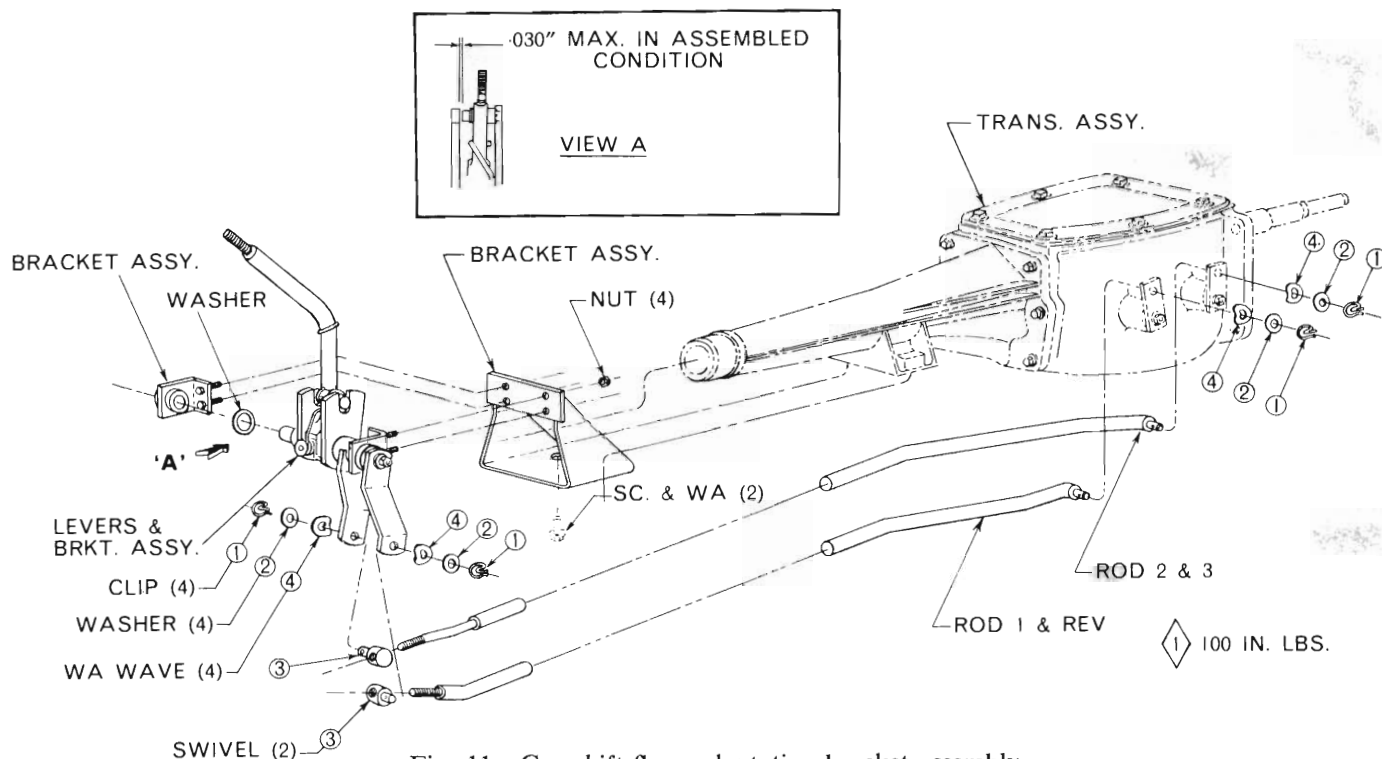

Fig. 11 - Gearshift floor adaptation bracket assembly
(3) Disconnect the selector lever rods from the levers by removing the spring clips and washers. *Refer Fig. 11.*
(4) Remove the four bushing bracket retaining nuts and remove the lever bracket assembly.
(1) Install the two bushing brackets and the lever assembly to the mounting bracket and tighten nuts to 100 lbs./in.
(2) Re-connect the two gear selector rods and secure with washers and spring clips, *refer Fig. 11.*
(3) Re-install the gear lever and boot to the lever bracket assembly stud. (Check that the gear lever fork assembly is spring loaded toward the 2nd and 3rd gear selector position and has no greater clearance than .030" between the opposite blade and the fork pin). *Refer Fig. 11 insert.*
(4) Position the hand selector lever correctly, tighten the stud locknut to 20-25 lbs. ft. torque.
(5) Reposition the boot and secure with six screws to the floor pan.
(6) Readjust the selector linkage (*refer para. 4.*)